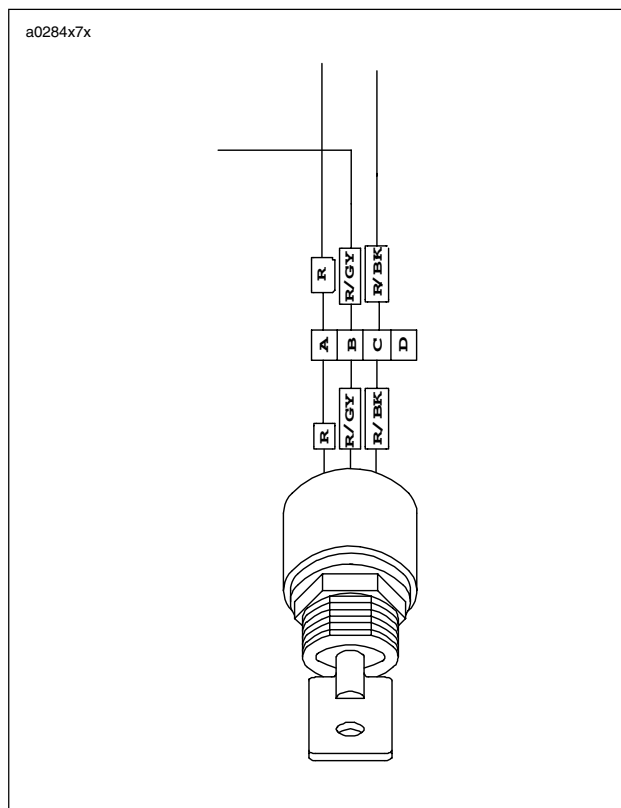

Figure 7-14. Ignition Key Switch Connector [33]
4. See Figure 7-14. Cut cable tie and disconnect ignition key switch connector [33] from main wiring harness. Note location of cable tie.
3. See Figure 7-14. Attach ignition key switch connector [33] to main wiring harness. Secure harness with cable tie.